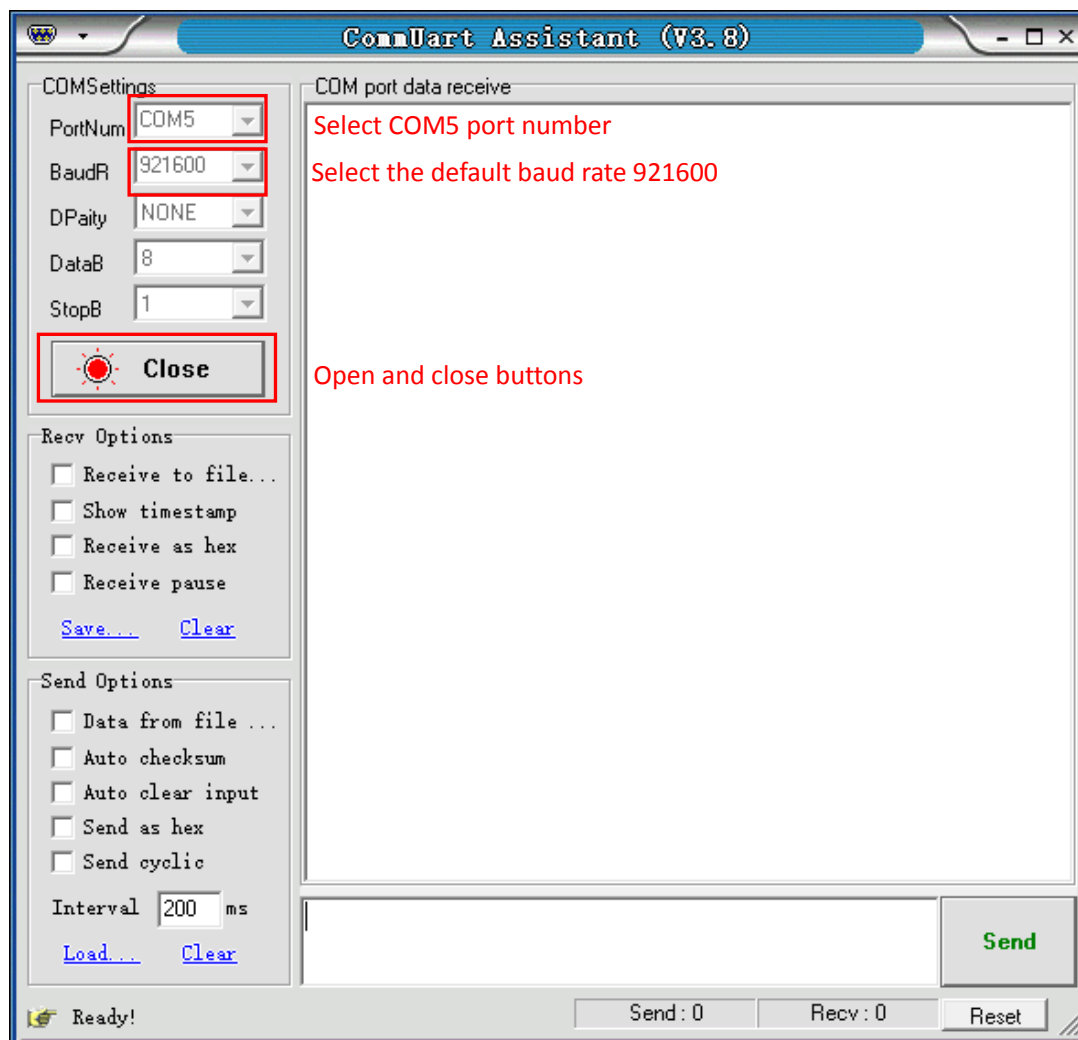

Fig.108 USB connection succeeds
2) After these settings are completed, if you see a black circle like  , you need to click the button to make it red like  . If you cannot make it red, please check the COM number and repeat the click. If the connection is OK, you will see Fig.108.